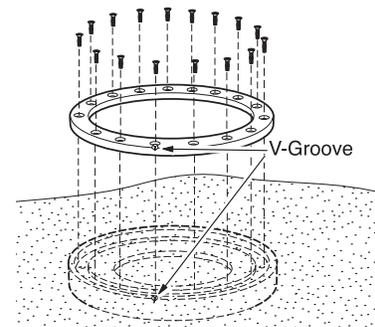

Figure 9. Installing the Locking Ring, Post, and Cover
1. Locate the floor canister under the liner and feel for the V-groove on the outer edge of the canister (see Figure 9).
3. Hold the locking ring in place and install the 16 screws. Tighten securely (see Figure 9).